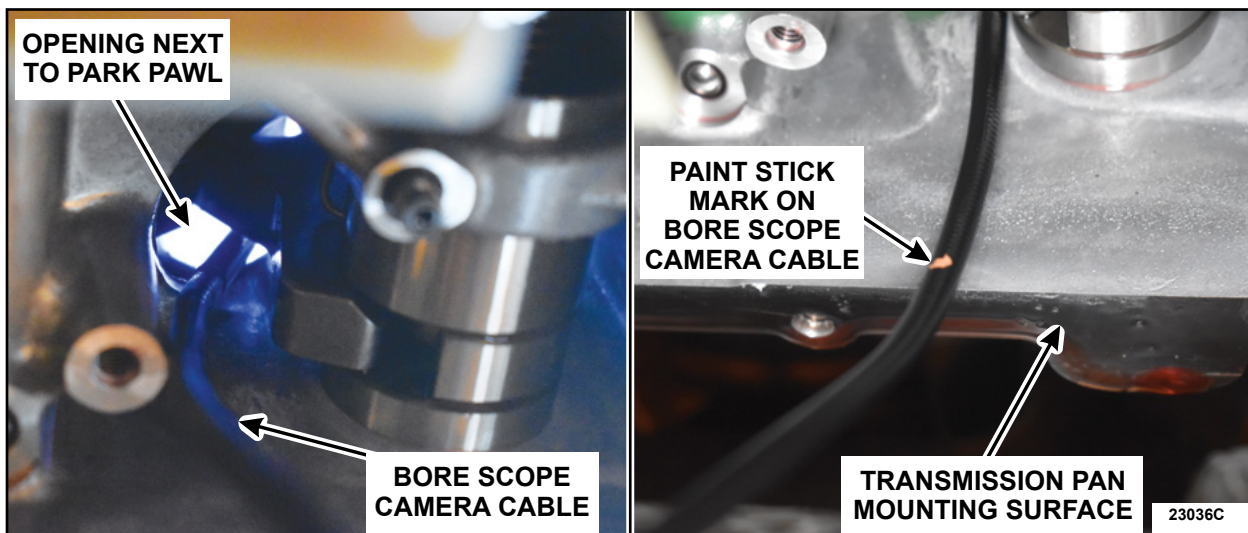

FIGURE 6
7. Insert the borescope through the opening beside the park pawl until the mark placed in the previous Step lines up with the transmission fluid pan mounting surface. See Figure 6.